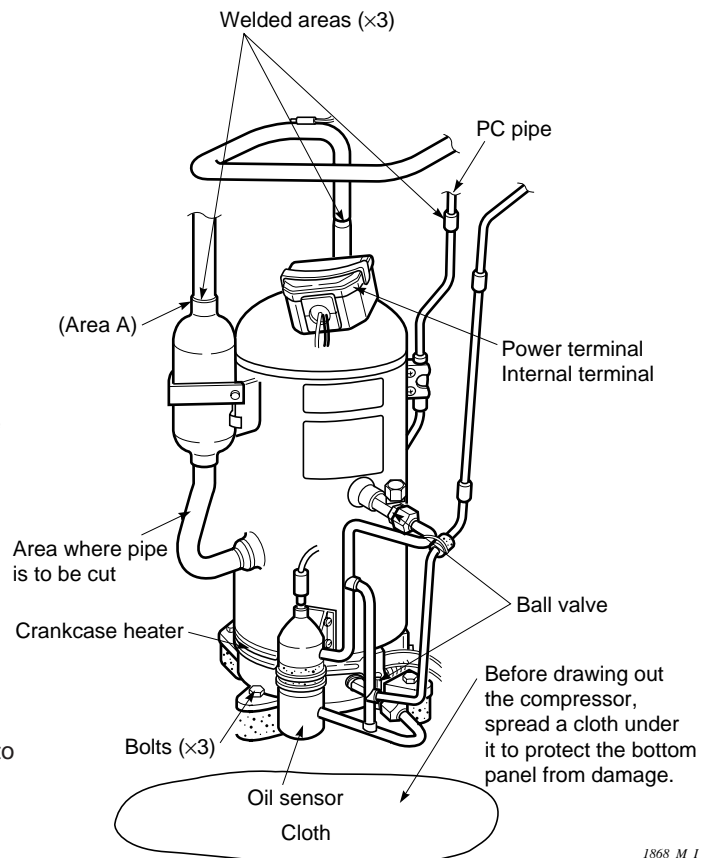

Fig. 1
### (1) Replacing the power control (PC) compressor (Ref. Fig. 1)